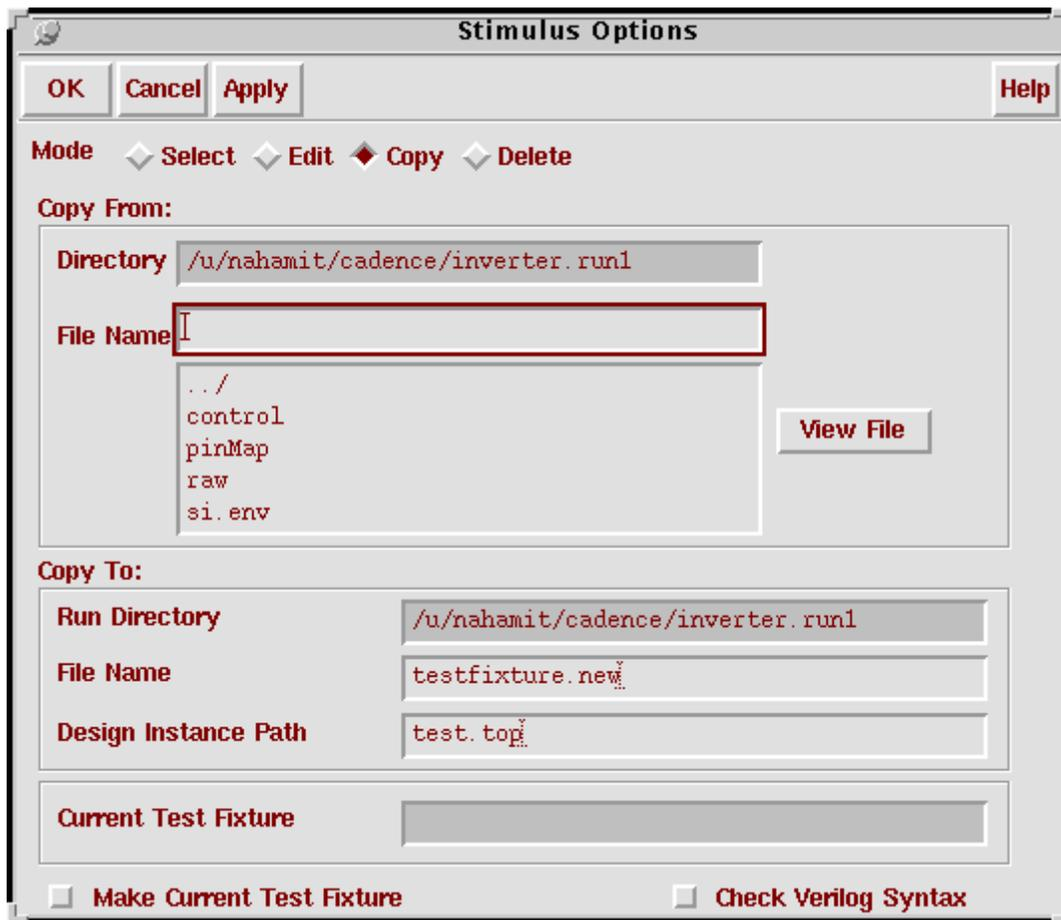
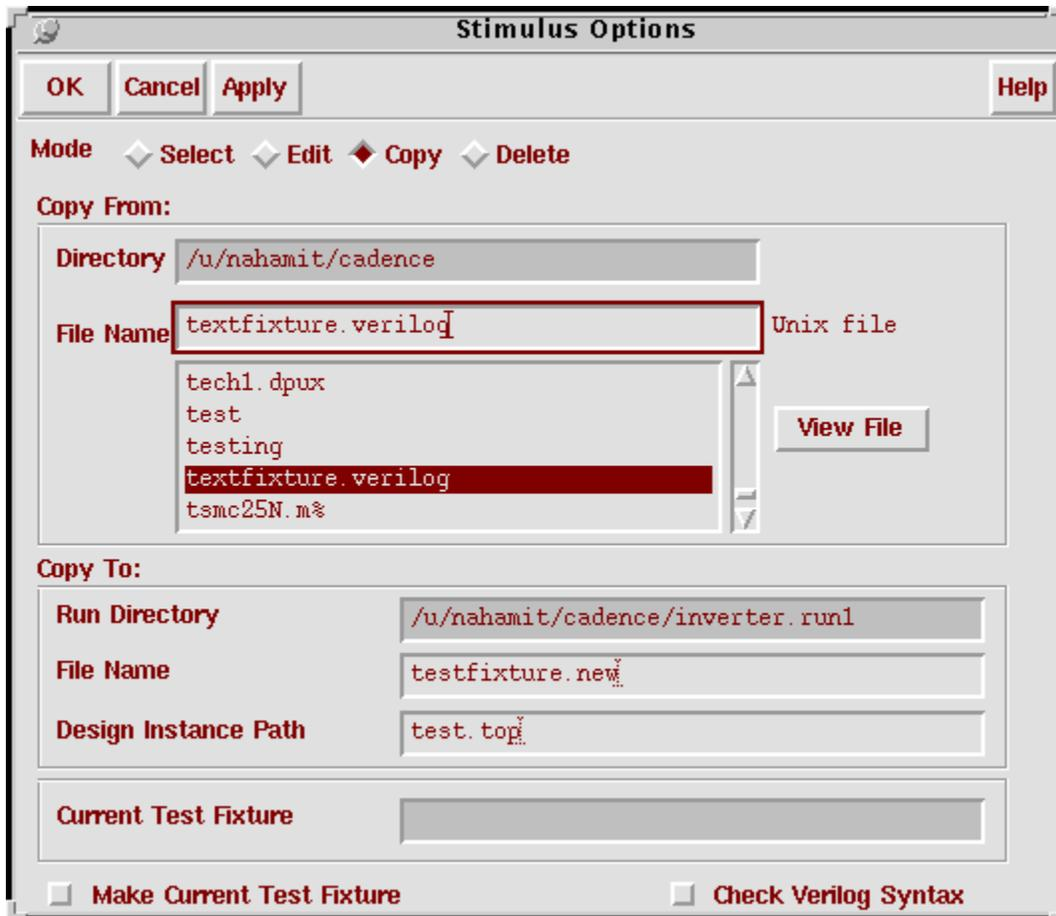

Fig 7: Simulation Options
Fig 8: Simulation Options (Verilog File selected)
- c. A "Stimulus Options" form opens as shown in Fig 7. The default **Mode** is **Copy**.
- d. In Fig 7 select the verilog file generated using BitGen in the **File Name** text box. The verilog file selected can be seen in Fig 8.
- e. You can view the stimulus file by clicking **View File** in Fig 8.
- f. Click **OK** in Fig 8.